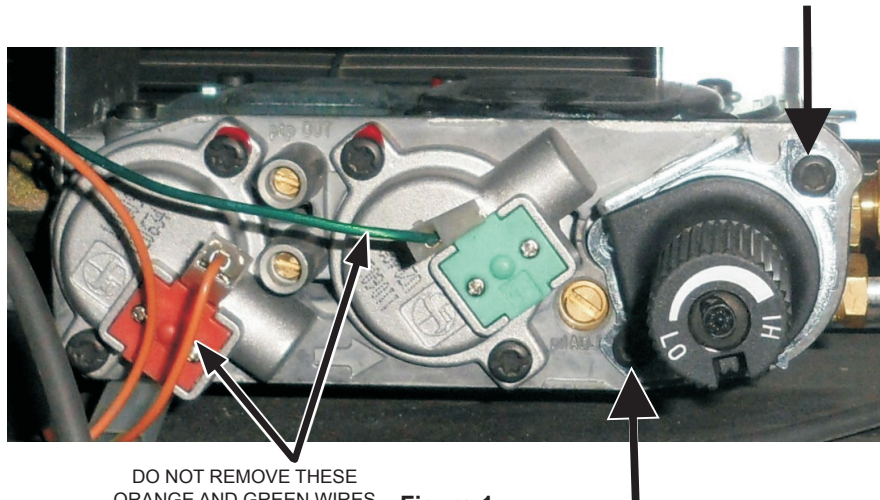

Figure 1
3. Remove the two screws securing the HI/LO knob to the valve with a T-15 Torx Security Bit. **See Figure 1.**